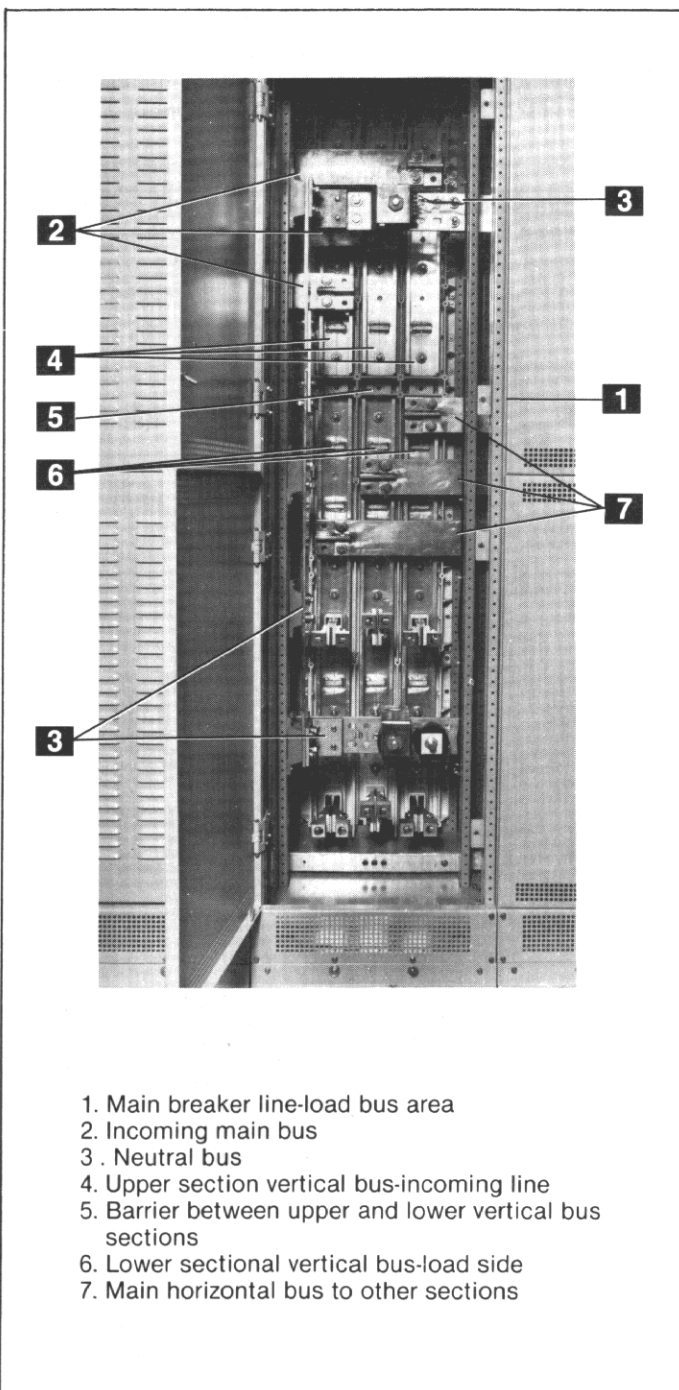

Fig. 3-23. Main breaker bus arrangement
The typical arrangement with an all-welded aluminum bus is shown in Fig. 3-23. Bolts at bus joints are used only for mechanical support or at connections which must be made in the field. The bolts present on welded aluminum joints are only for supporting and positioning busbars prior to welding. Once the joints are welded, these bolts perform no further function; however, it is recommended that the bolts be left in place.
On main and tie breakers, the bus area, Fig. 3-23, is divided into an upper (4) and lower (6) section by an isolation barrier (5) built into the molded base. For the main circuit breakers, the upper section contains the incoming line bus (4). This bus is fed from the bus connections (2) in the transition section. The lower section of the bus area contains the load side main bus (6) (protected by the main breaker) which feeds all